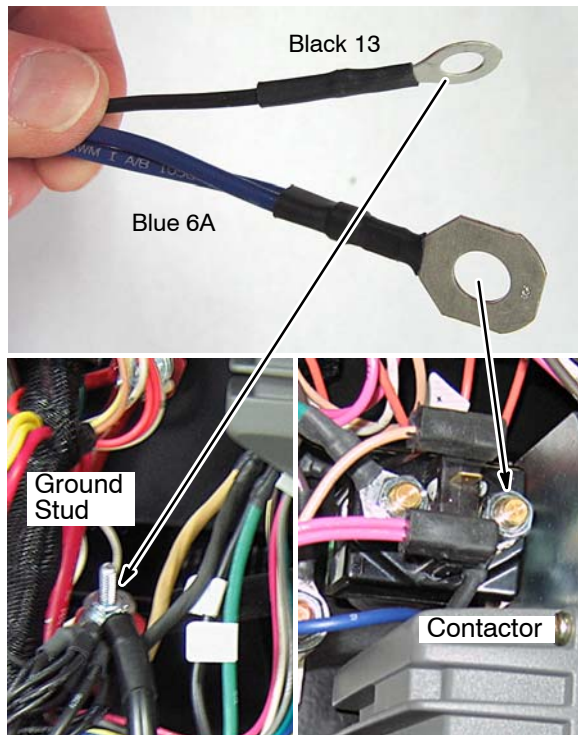

Fig. 7
5. Connect the routed *ec*-H₂O harness wires to the instrument panel as shown (Figure 7).